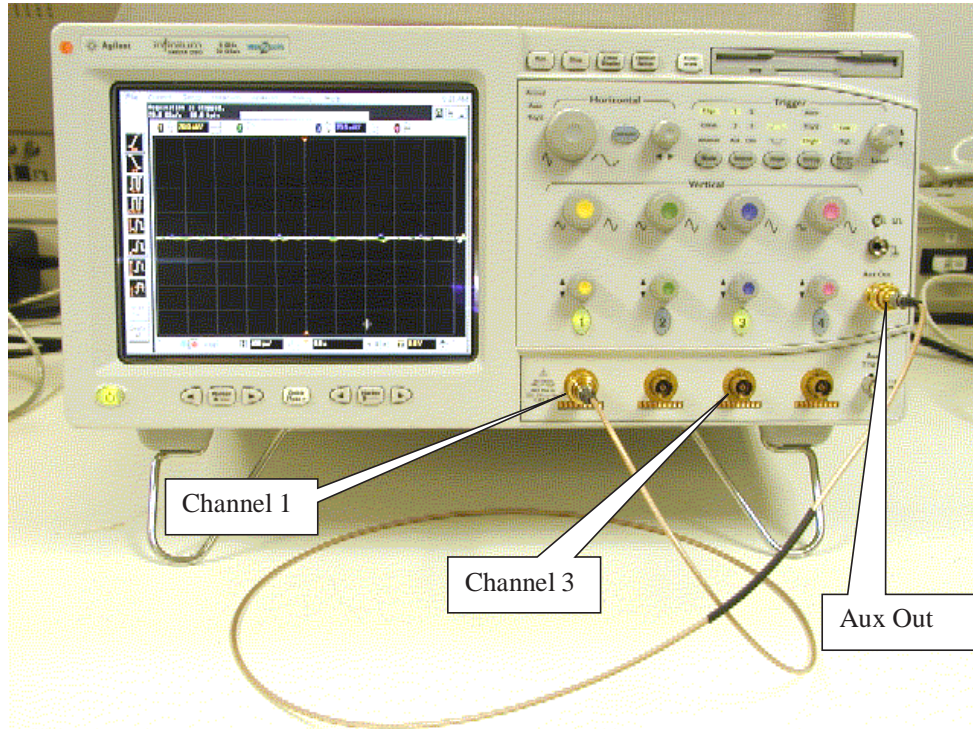

Figure 289 Vertical Input Calibration Connections (Cable on Channel 3 not shown).
- 1 Referring to the Figure 289 below, perform the following steps:
- 13 Referring to Figure 289 on page 617, perform the following steps: